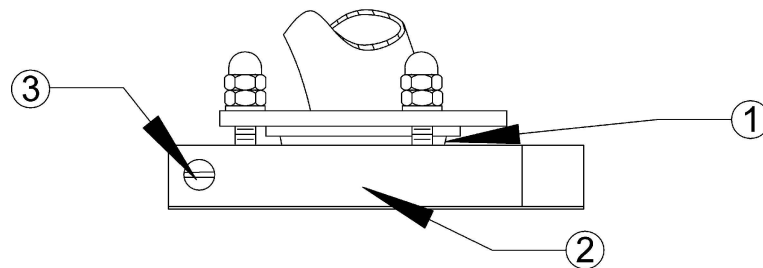

FIGURE 2.1
Engage the ball joint (1, Figure 2.1) into the docking module (2) and lock (3) the assembly together.
- 3.0.2 Level the Bantam line sensor housing by adjusting the three ball joint adjustment screws (Figure 2.1) while referring to the bull's eye level on the top of the housing.